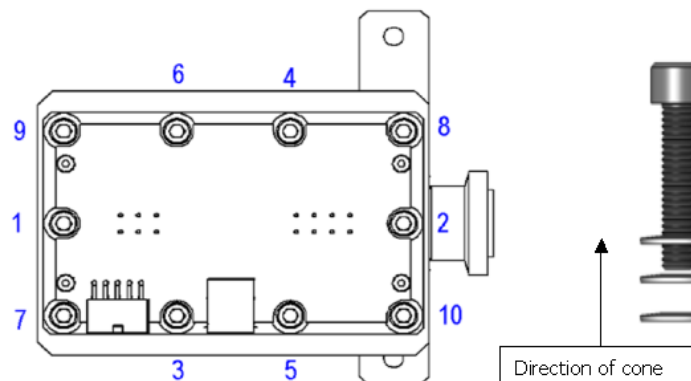

Figure 10: Direction of Cone
8. Use an M5 allen wrench to loosen screws (item 1) and carefully remove the spectrometer header from the body. The vacuum system vents to atmosphere as the screws are loosened. Retain the socket head cap screws (item 1) and the Belleville washers (item 2). See line item 21 for correct orientation of the Belleville washers (Figure 10: Direction of Cone).
23. Insert a screw with three Belleville washers into each hole and finger tighten (Figure 10: Direction of Cone).
24. Following the pattern shown in Figure 10: Direction of Cone, torque screws to 45 in-lbs (5.0 N-m).
26. Wait a minimum of five minutes then torque the screws shown in pattern (Figure 10: Direction of Cone) to 90 in-lbs (10.2 N-m).